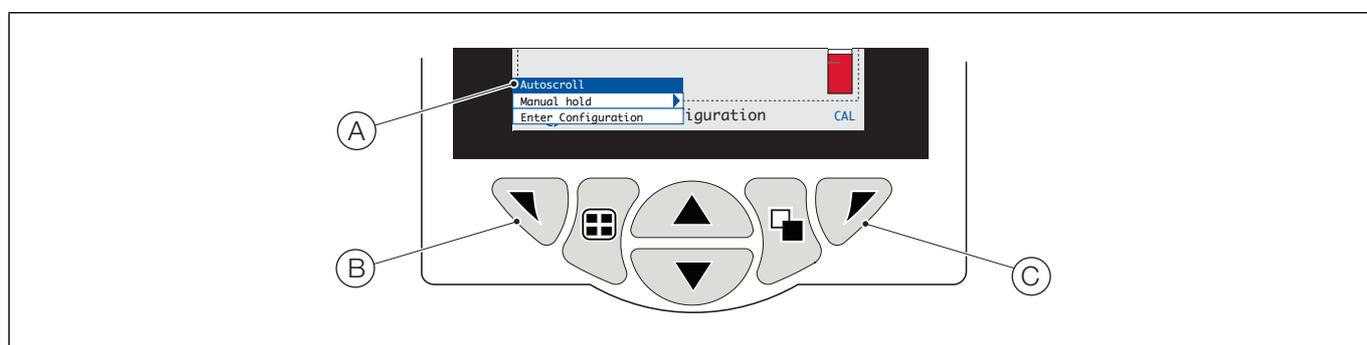

Fig. 6.2 *Operator* menus
The transmitter has 4 modes of operation – all modes are accessed from the *Operator* menu – see Fig. 6.2.
Referring to Fig. 6.2, *Operator* menus (A) are accessed from any *Operating*, *View* or *Log* page by pressing the ∇ key (B).
When multiple wet-sections are connected, and if *Autoscroll* is selected from the *Operator Menu* (see Fig. 6.2, page 30), the display scrolls through each available *Operator Page* consecutively.